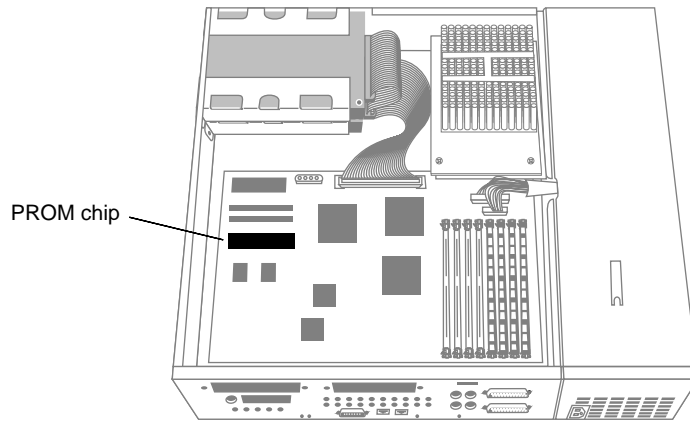

Figure 12 Locating the PROM chip on the system board
1. Locate the PROM chip. Facing the system from the rear, the PROM chip is located on the left of the system board, as shown in Figure 12.